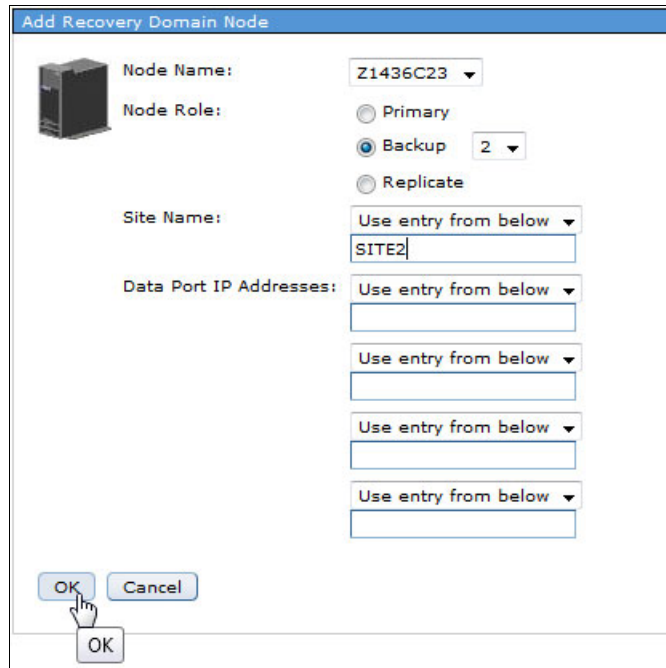

Figure 4-48 Three-node cluster: Specifying the recovery domain details
9. In the Add Recovery Domain Node window (as shown in Figure 4-48), enter the following information: